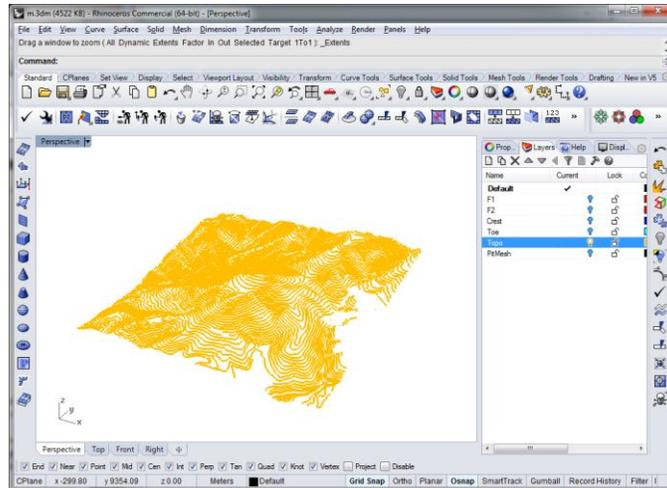

Figure 145: Only the Topo layer is visible.
1. In the **Layers Panel**, turn off all layers except **Topo**. Click **Zoom Extents** (Figure 145).